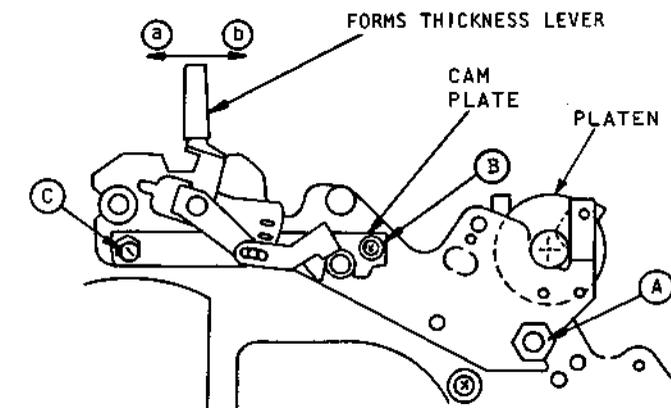

Figure 5-11 Platen Height Adjustment
- a. Refer to Figure 5-11. If print density varies from top to bottom of the character, platen height can be adjusted by screw A. There is one on either side.